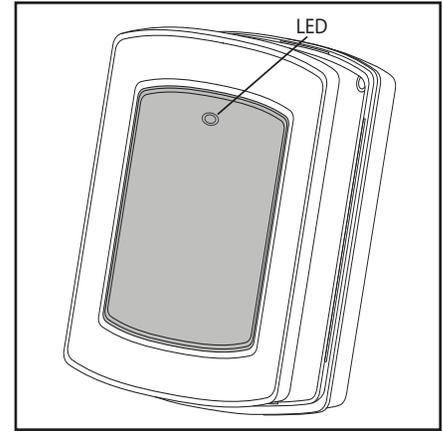

Figure 5: Installing the Top Housing
4. Align the top housing with the base, keeping the LED toward the top, and snap the top housing into place. See Figure 5.
8. Snap the top housing back on to the base with LED toward the top. See Figure 5.